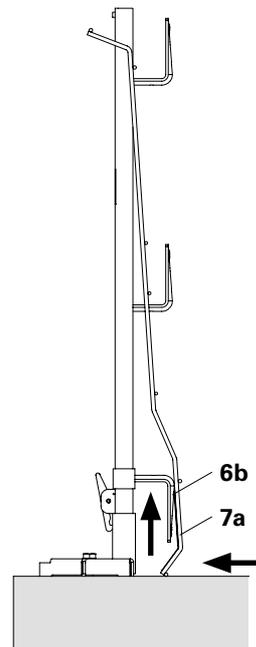

Fig. A4.02b
3. Push the Toe Board (7a) to the Post PP (6). (Fig. A4.02b)